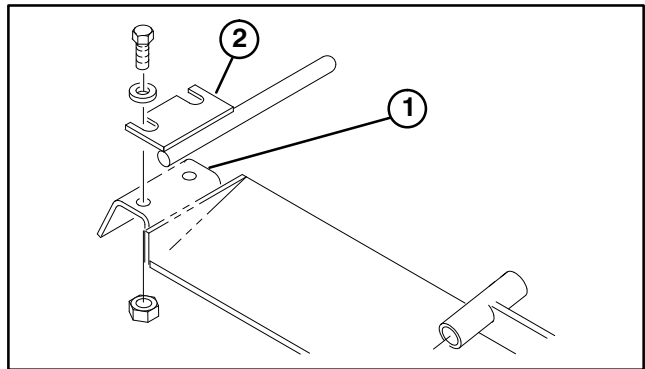

Figure 16
10. Using a tipper bracket (Fig. 16) as a template, locate, mark and drill (2) 9mm dia. holes in top of each **front, fixed** cutting unit tensioner bracket. Make sure tipper bracket is centered on tensioner bracket, as shown in figure 16. Holes may exist.
11. Mount a tipper bracket to each tensioner bracket with (2) capscrews, washers and locknuts.